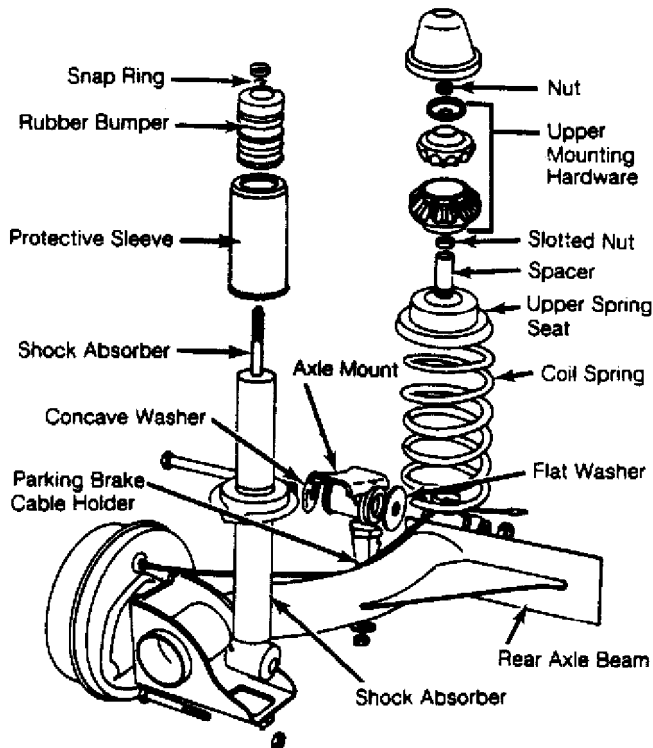

Fig. 1: Identifying Rear Suspension Components (Typical)
Rear suspension is link type with MacPherson suspension struts. Suspension uses control arms and axle beam for stabilization. Control arms and axle beam are combined as one unit. Brake drums or discs rotate on stub axles bolted to control arms. See Fig. 1.
2) Hold piston rod. Remove strut retaining nut and related components. See Fig. 1. Remove slotted nut (some models). Remove spacer and coil spring. If coil spring is to be replaced, ensure paint stripe color on replacement spring matches original spring color stripe.